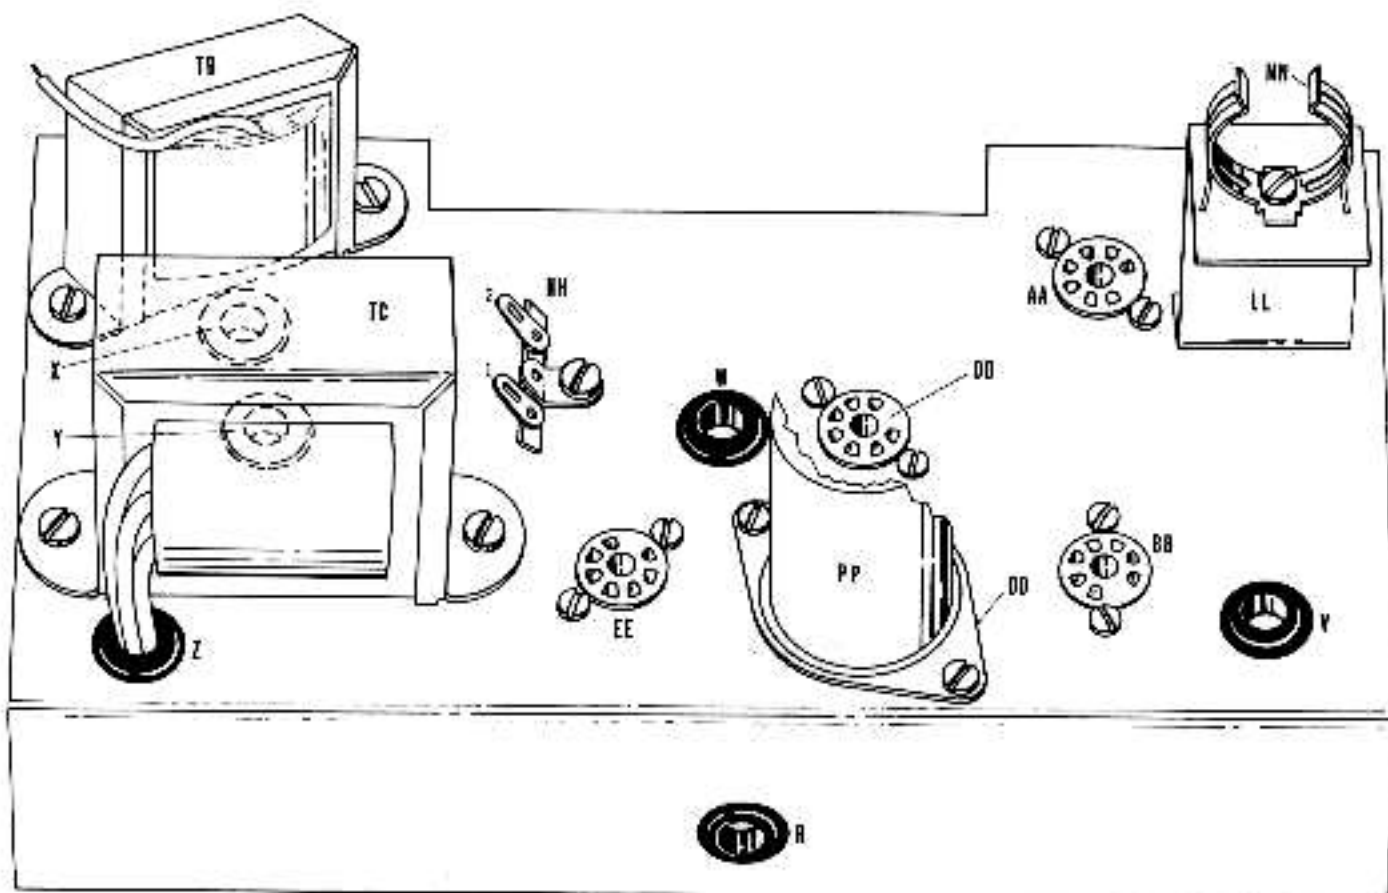
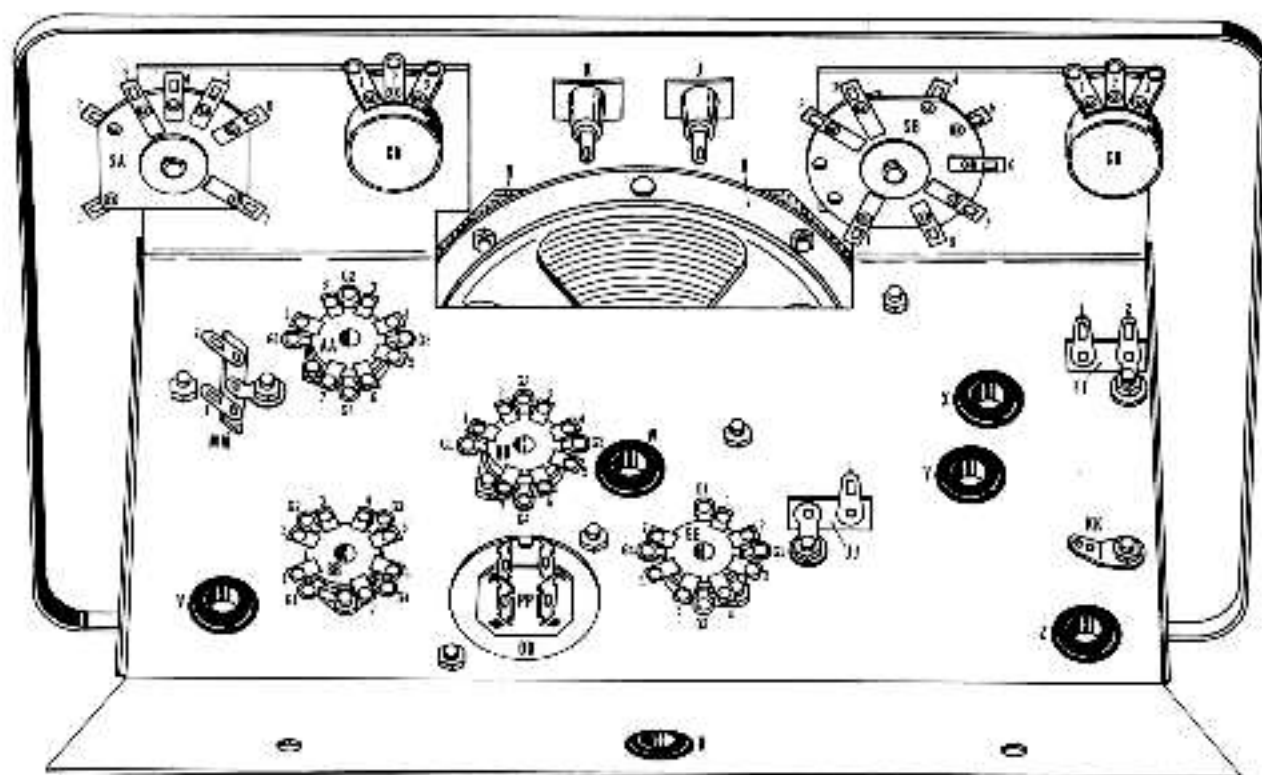
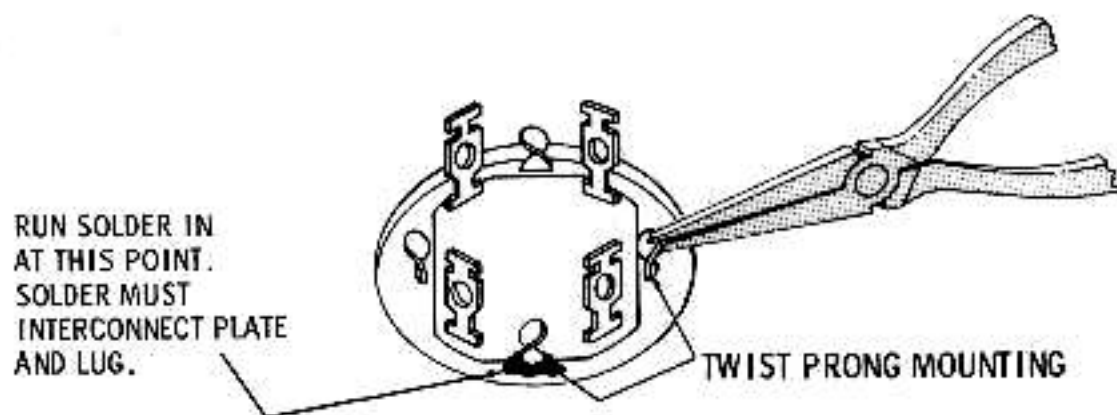

FIGURE 4
FIGURE 5
FIGURE 6
#### REFER TO FIGURES 4 THROUGH 6
- ( ) 19. Install a seven-pin miniature tube socket in hole at chassis location AA. Use two #4-40 x 1/4" BH screws, two #4 lockwashers, and two #4-40 hex nuts. Position socket as shown in Figure 4. Also see Figure 5. (NOTE: Do NOT bend socket terminals flat; the illustrations show them flat only for purposes of clarity.)
- ( ) 20. In the same manner, install another seven-pin miniature tube socket in hole at chassis location BB. Use two #4-40 x 1/4" BH screws, two #4 lockwashers, and two #4-40 hex nuts. Position socket as shown in Figure 4. Also see Figure 5.
- ( ) 21. In the same manner, install another seven-pin miniature tube socket in hole at chassis location DD. Use two #4-40 x 1/4" BH screws, two #4 lockwashers, and two #4-40 hex nuts. Position socket as shown in Figure 4. Also see Figure 5.
- ( ) 22. In the same manner, install another seven-pin miniature tube socket in hole at chassis location EE. Use two #4-40 x 1/4" BH screws, two #4 lockwashers and two #4-40 hex nuts. Position socket as shown in Figure 4. Also see Figure 5.
- ( ) 23. Mount current transformer at chassis location TB. Position transformer so that the two red leads and one black lead are at grommet X. Pass these leads through grommet X before mounting. Under the chassis, mount two-lug terminal strip FF (one lug grounded) on the transformer mounting screw nearest side of chassis. Use two #6-32 x 3/8" BH screws, two #6 lockwashers, and two #6-32 hex nuts. See Figures 4 and 5.
- ( ) 25. Mount power transformer at chassis location TC. Position transformer so that the green and green-yellow leads are at grommet Z, and the black, red, and red-yellow leads are at grommet Y. Pass these leads through grommets Y and Z before mounting. Under the chassis, mount one lug terminal strip JJ, and #6 solder lug KK on the transformer mounting screws. Bend solder lug KK to approximately 30° angle from chassis. Use two #6-32 x 3/8" BH screws, one #6 lockwasher, and two #6-32 hex nuts. See Figures 4 and 5.
- ( ) 29. Insert the metal electrolytic capacitor PP from the top into mounting wafer slots. Position terminals as shown in Figure 5. Hold capacitor firmly in place and twist prongs with pliers to secure. See Figure 6. Solder the mounting lug without the hole to the mounting plate as shown in Figure 6.
**REFER TO FIGURES 5 AND 7**
- ( ) 33. Install the 500K $\Omega$  GAIN control at location CA. Orient the control as shown in Figure 5. Use a control lockwasher, Bakelite panel washer, and control hex nut.
- ( ) 34. Install the 50K $\Omega$  WATTS control at location CB. Orient the control as shown in Figure 5. Use a control lockwasher, Bakelite panel washer, and control hex nut.